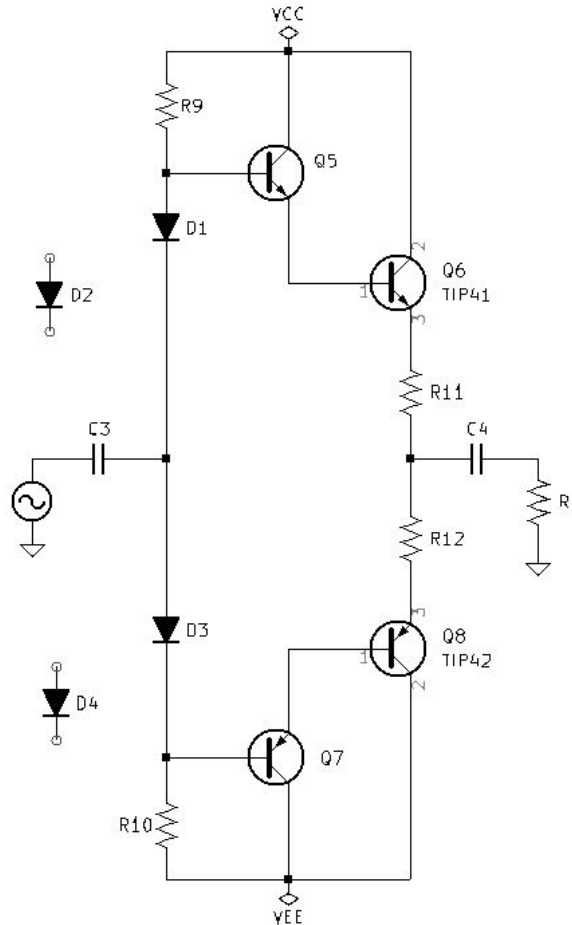

Figure 5.2: Push Pull Amplifier Cross-Over Distortion Test Circuit.
- (b) Build your calculated Push-Pull Amplifier with D2 and D4 removed from the circuit. Also, replace RL with a $10K\Omega$ resistor. See Figure 5.2 *Push Pull Amplifier Cross-Over Distortion Test Circuit.* on page 46.